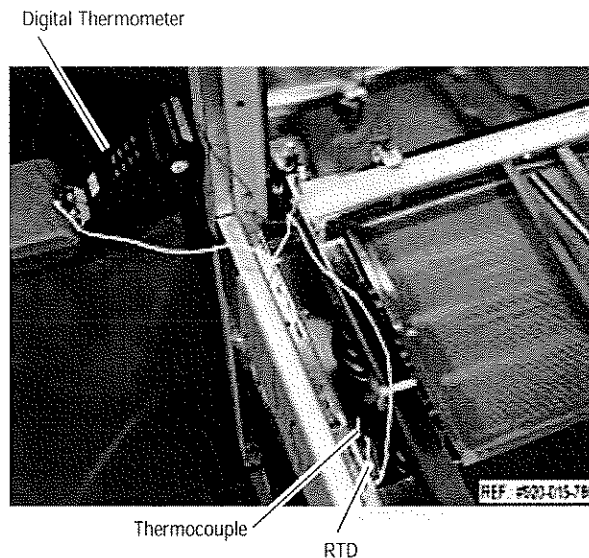

Figure 7-4. Thermocouple Around Sump RTD
5. Install a thermocouple extension into wash chamber. Pass thermocouple by bottom left corner and run it toward sump, under bottom filters. Secure thermocouple around RTD. Ensure thermocouple cables do not obstruct rotary spray arms operation. See Figure 7-4.